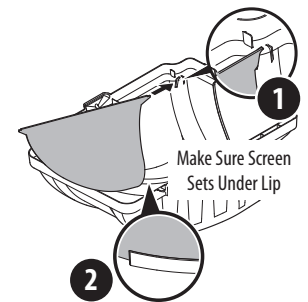

Figure 7
3. **If not already installed by the factory,** install the bagger screen into the bagger cover by first inserting one end into the bagger cover by first inserting one end into the corresponding cutout mounting hole (1). Clip the other side of the screen by flexing the screen and pushing it down into the opposite side cutout. Make sure screen sits under the cover's lip (2). See Figure 7.